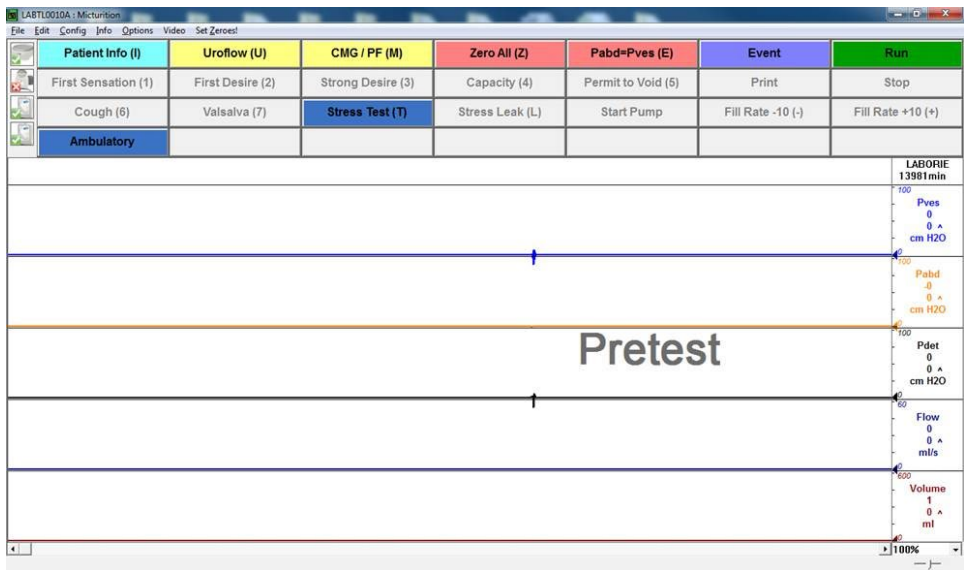

Figure 102: Ambulatory – Pretest Window
- Ensure catheters are inserted as per the T-DOC Air-Charged Catheter and Transducer Setup section on page 21. LABORIE recommends the use of T-DOC Air-Charged for Ambulatory Monitoring to allow for freedom from the Urodynamic System. With transducers in the open position, **Set Zeroes** to atmospheric pressure. The test graph will begin scrolling in **Pretest** mode but will not record data as shown in Figure 102 below; adjust catheters as needed. The LED Bluetooth light on the **UDS Roam™** will light up to signal a connection has been made.